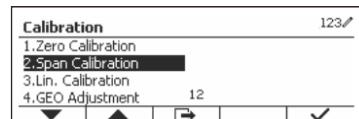

Figure 9
2. Press the softkey corresponding to the **✓** icon to enter the Calibration submenu. (See Figure 9)